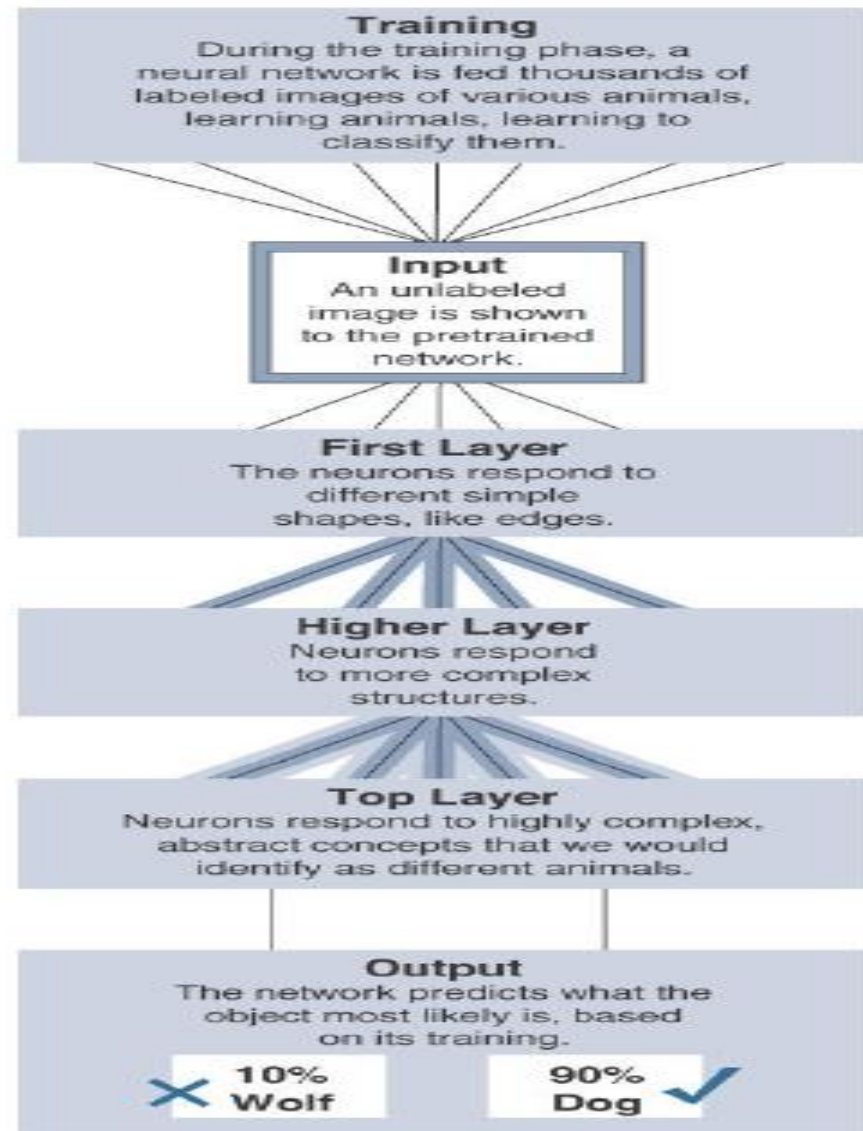

Figure 7.6: Neural Network Example
- This **model** is demonstrated in figure 7.6. By contrast, old supervised ML techniques would compare the human figure to potentially hundreds of thousands of images during the **training phase, pixel by pixel, making them difficult and expensive to implement (with a lot of training needed) and slow to operate**.